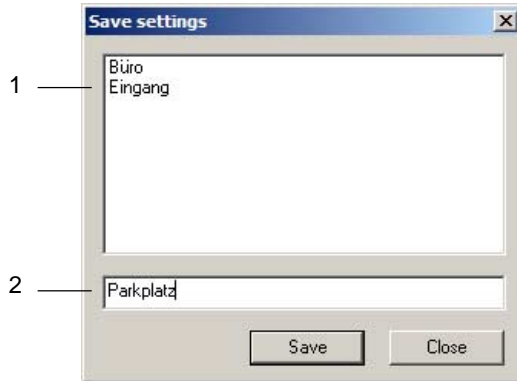

Fig. 6-2
Enter a name for your setting in the text box (2) of the **Save settings** dialogue window (see Fig. 6-2). The presets are displayed in the list box (1). Click on the **Save** button.